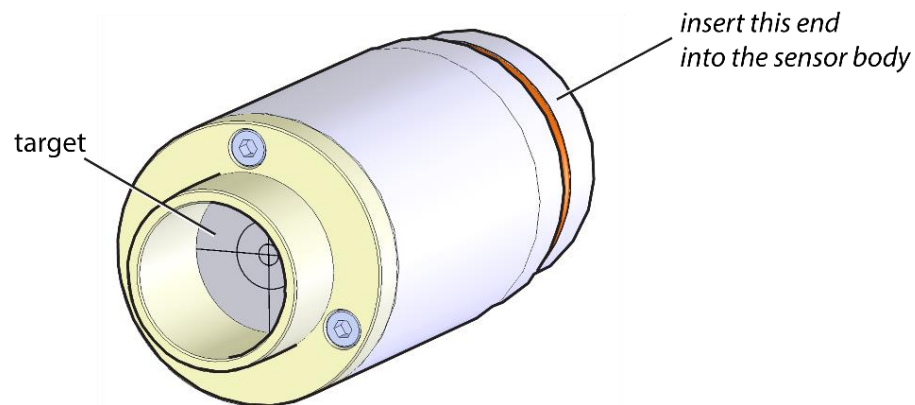

Figure 28: Alignment tool.
An alignment tool (**Figure 28**) is provided that simulates the effect of the lens and Receiver diode.
1. Referring to **Figure 28**, adjust the bolts on the flange to get an image on the target as follows:
- 3a. Referring to **Figure 28** above, loosely tighten bolt **A**.